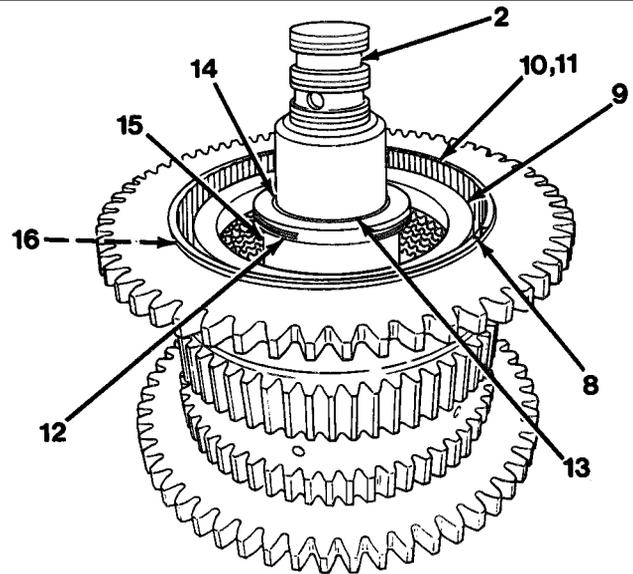

Figure 11-4
8. Remove snap ring (8), clutch plate retainer (9), six clutch plates (10) and clutch separator plates (11, Figure 11-4).
9. Compress four springs (12) and hold down to remove snap ring (13).
10. Remove snap ring (13) from clutch shaft assembly (2).